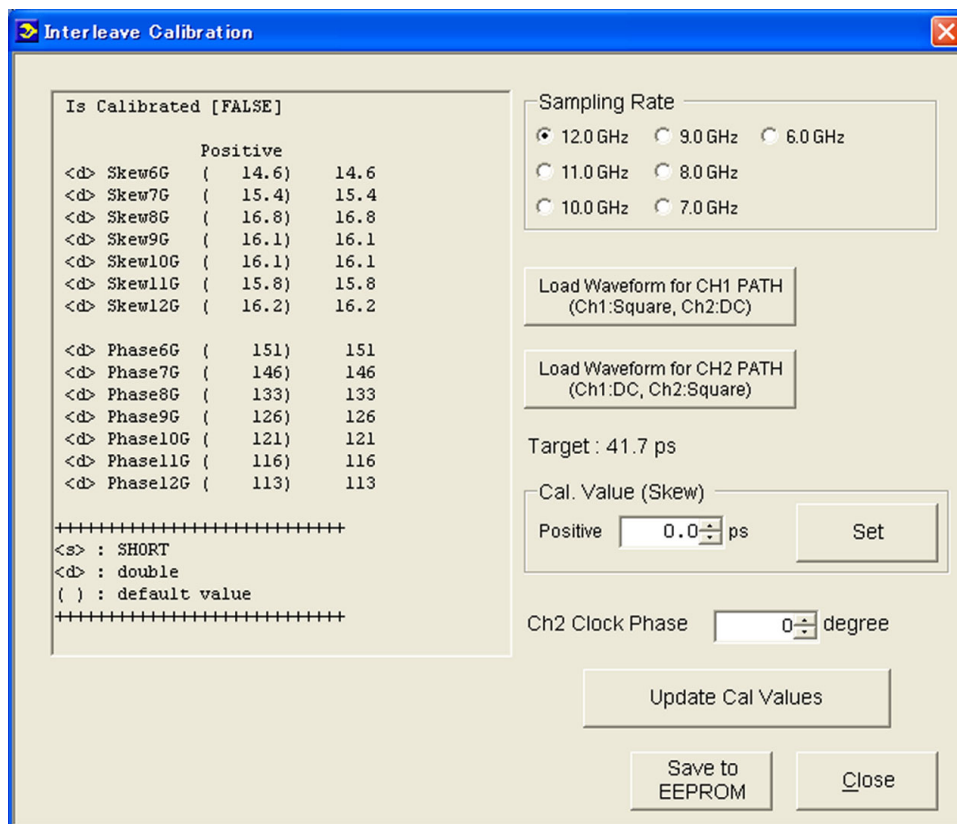

Figure 8: Interleave Calibration window
2. Click the **Interleave...** button in the AwgService UI window to display the Interleave Calibration window. (See Figure 8.)